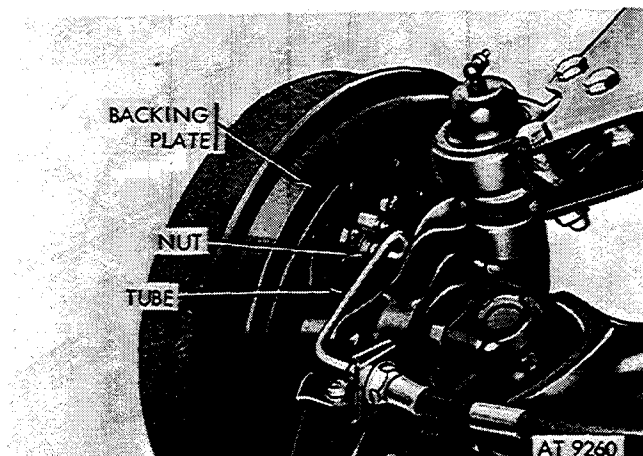

Figure 2-314. Disconnect brake cylinder tube from brake backing plate.
(1) Raise vehicle and position support under lower control arm.
(2) Remove spindle (para 2-138), and disconnect tie rod end (para 2-164).
(3) Loosen nut and disconnect brake cylinder tube from brake backing plate (fig. 2-314).